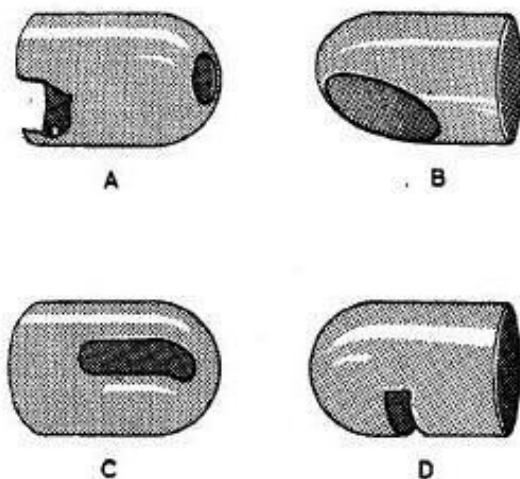

Fig. 2. Cockpit lamp screens
(For significance of letters, refer to fig. 2)
4. Five screens (fig. 2), varying in size and position of the aperture, are available for this type of lamp, and these, together with the facility of orientation afforded by the incorporation of the key plate in the design of the lamp, are intended to meet the majority
of applications. The uncut screen, which will be required only when it is necessary to cut an aperture to meet a particular installation requirement, should seldom be needed. All the screens are fitted internally with a stud, shown at A, fig. 2, by which the screen is located and retained on the lamp-holder.